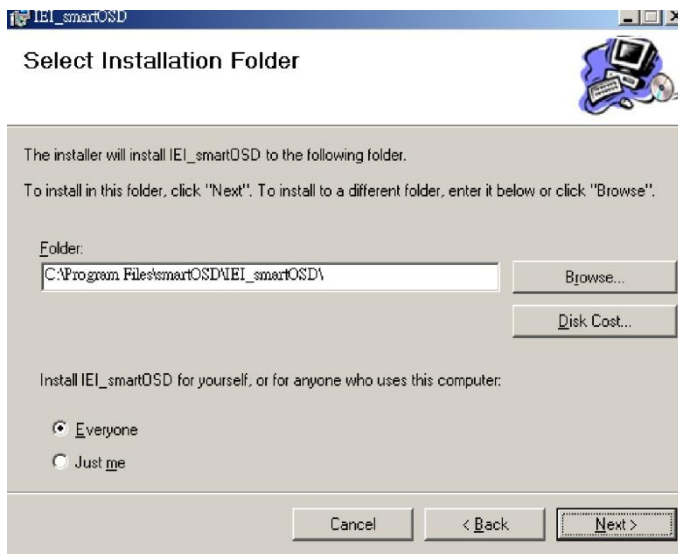

Figure C-2: smartOSD Folder Select Screen
Step 5: The Folder Select screen in **Figure C-2** appears.
Step 6: Select the installation folder in **Figure C-2** shown above.